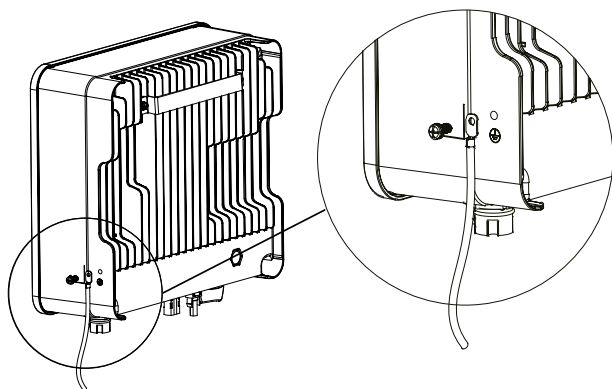

Fig. 36. Earthing terminal connection.
2. Fasten the earthing connection terminal to the PE cable with a suitable tool and lock the earthing connection terminal to the earthing connection hole on the bottom right side of the inverter as shown in Fig. 36.